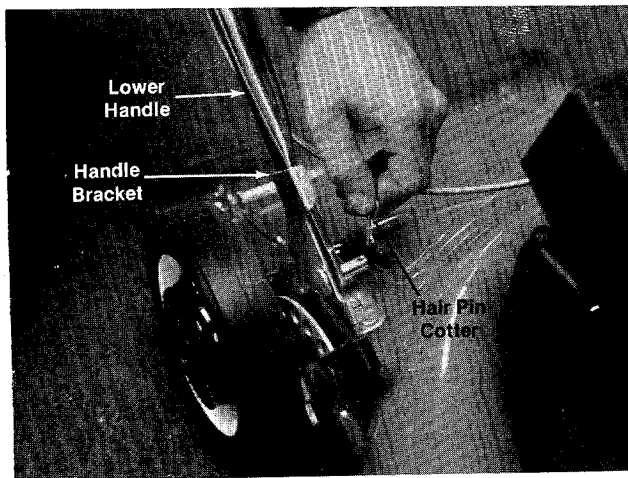

FIGURE 1.
2. Assemble the lower handle to the handle brackets as shown in figure 1.
3. Secure the handle with cotter hairpins on both sides. See figure 1.